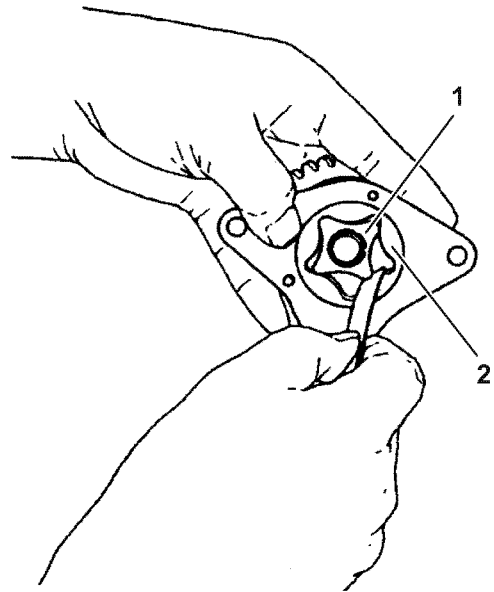

Figure 9-6
Inspect the tip clearance between the outer and inner rotors. To inspect this, insert a feeler gauge between the inner rotor tooth tip (**Figure 9-6, (1)**) and the outer rotor tooth tip (**Figure 9-6, (2)**), and measure the clearance.